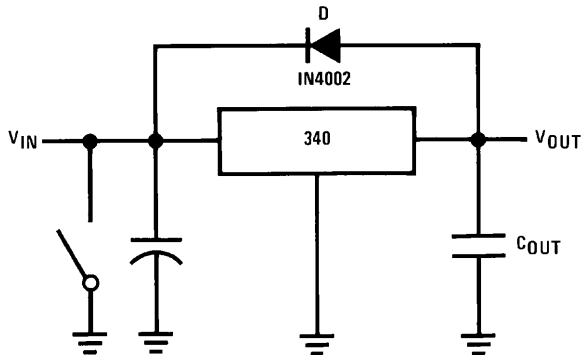

FIGURE 1. Input Short
**Shorting the Regulator Input:** When using large capacitors at the output of these regulators, a protection diode connected input to output (*Figure 1*) may be required if the input is shorted to ground. Without the protection diode, an input short will cause the input to rapidly approach ground poten-
tial, while the output remains near the initial  $V_{OUT}$  because of the stored charge in the large output capacitor. The capacitor will then discharge through a large internal input to output diode and parasitic transistors. If the energy released by the capacitor is large enough, this diode, low current metal and the regulator will be destroyed. The fast diode in *Figure 1* will shunt most of the capacitors discharge current around the regulator. Generally no protection diode is required for values of output capacitance  $\leq 10 \mu F$ .